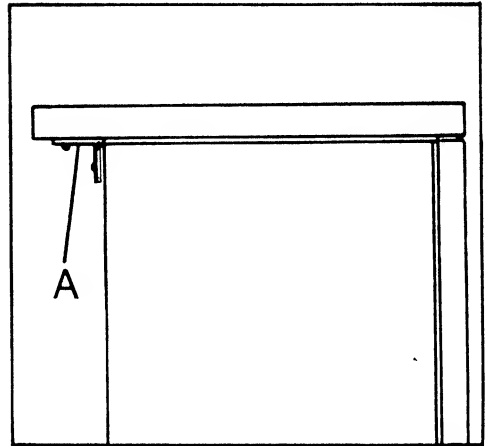

FIG 5
1. Remove the two screws (A, Fig.5) securing the worktop at the rear.